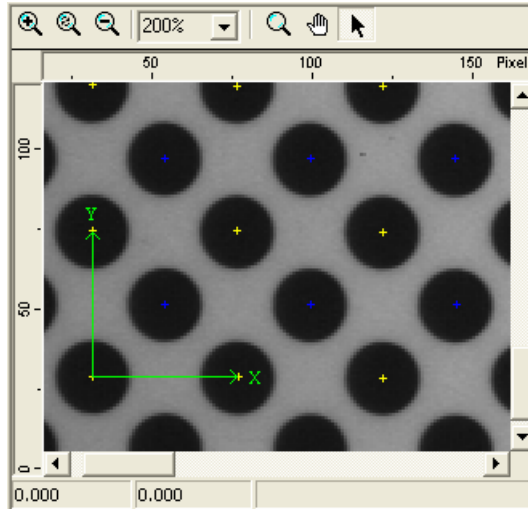

Figure 45 Zoom-in on the Coordinate Marker in the Calibration Dialog
9. Zoom in at the lower left corner of the display. A green coordinate system marker should be displayed in the bottom left, as in Figure 45. Note that this coordinate system is displaceable programmatically or with the mouse; leave it as is for this tutorial.